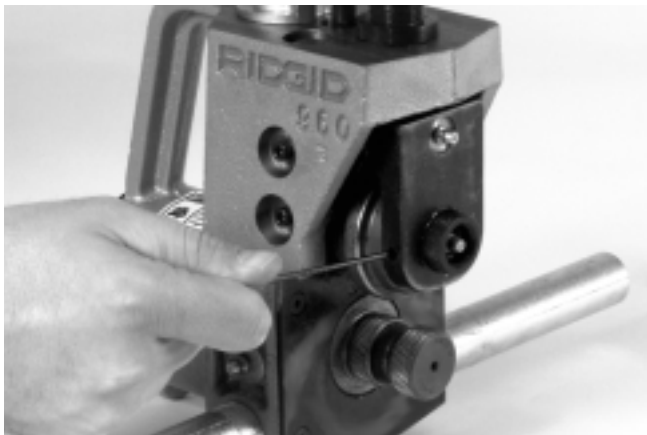

Figure 12 – Removing Groove Roll Set Screw
1. Remove the setscrew that holds the groover shaft in place. (Figure 12)